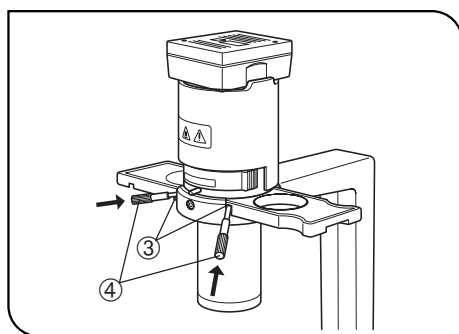

Fig. 24
4. While looking into the centering telescope, turn the knurled dial to focus on the phase annulus ② of the objective corresponding to the light annulus ①. (Fig. 24)
5. Insert the centering knobs ④ into the two centering screw holes ③ on the phase slider. Tighten and loosen the centering knobs until the light annulus is superimposed on the phase annulus ② of the objective. (Figs. 24 & 25)
6. Repeat the above steps to adjust centering with other objectives. However, the IX2-SL uses the PHC and PH1 light annulus with both the 10X and 20X objective. To ensure the use with both objectives, put the 10X or 20X objective that has not been used for centering into the light path and make absolutely sure the light annulus ① is not deviating from the phase annulus ②. If there is any deviation, perform the centering procedure with the other objectives again.